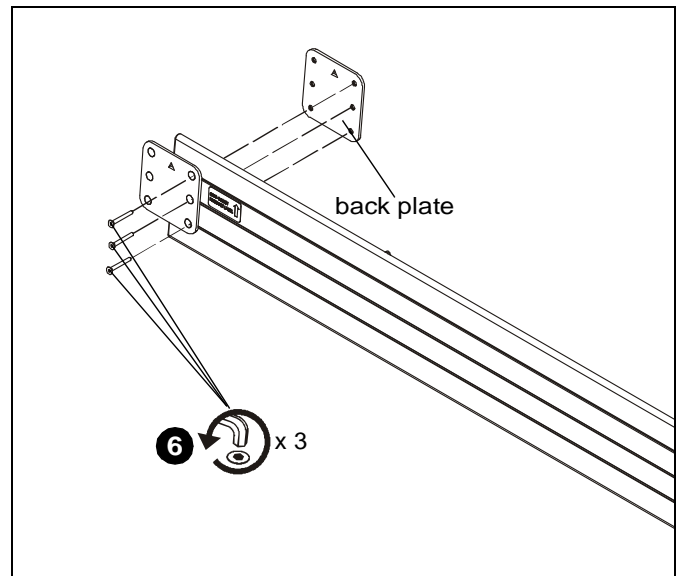

Figure 4
6. Remove three screws holding plates to FCA623 interface (C) in order to remove back plate. (See Figure 4)